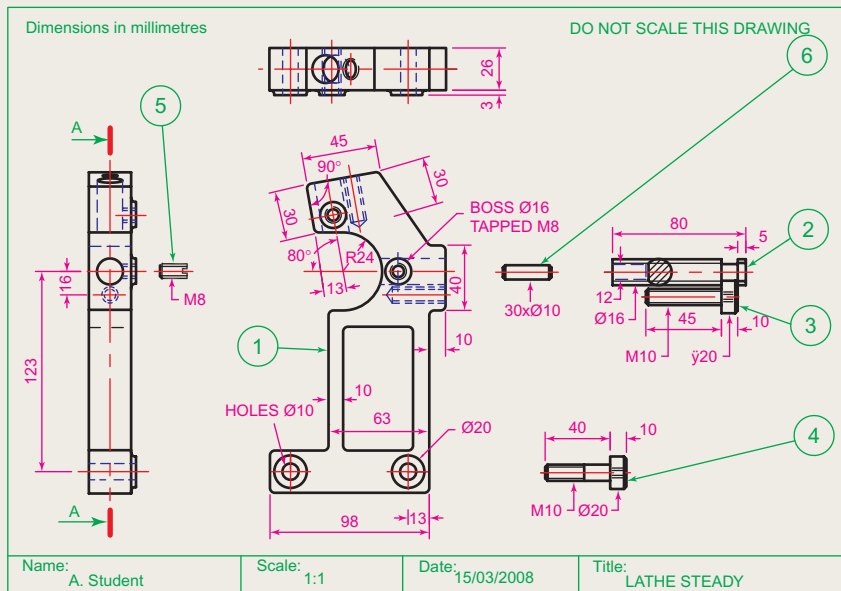

Fig. 17.43 Exercise 7 – details
7. An orthographic projection of the parts of a lathe steady is given in Fig. 17.43. From the dimensions shown in the drawing, construct an assembled 3D model of the lathe steady.